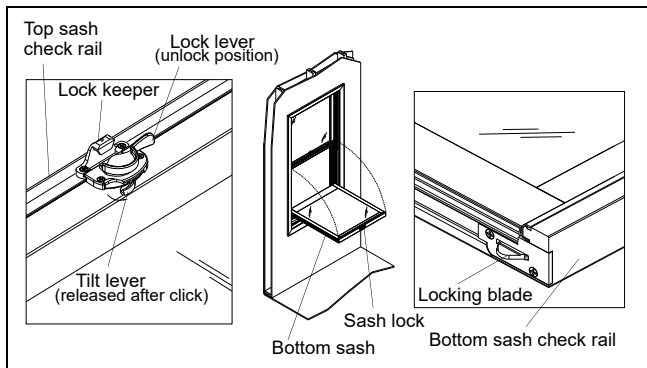

Figure 23
23. Raise bottom sash about 4" (102). Pull the tilt lever (nested in the sash lock base) until it clicks. Hold lever until locking blades clear the unit frame when tilting. See figure 23.